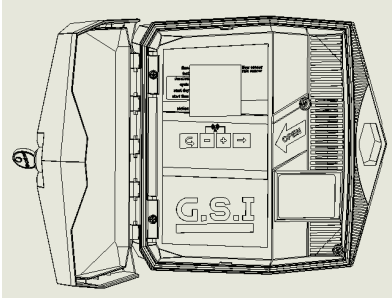

Figure 1: Open Controller Cover
1. Unlock and open the controller cover (Figure 1).